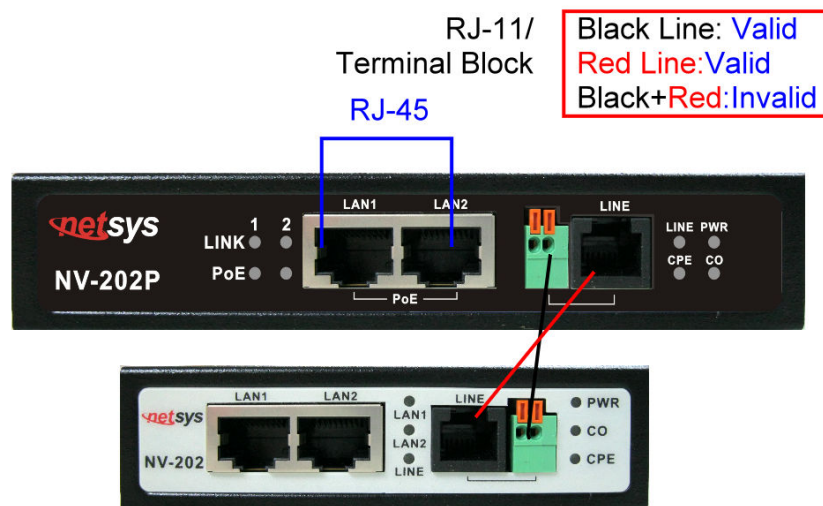
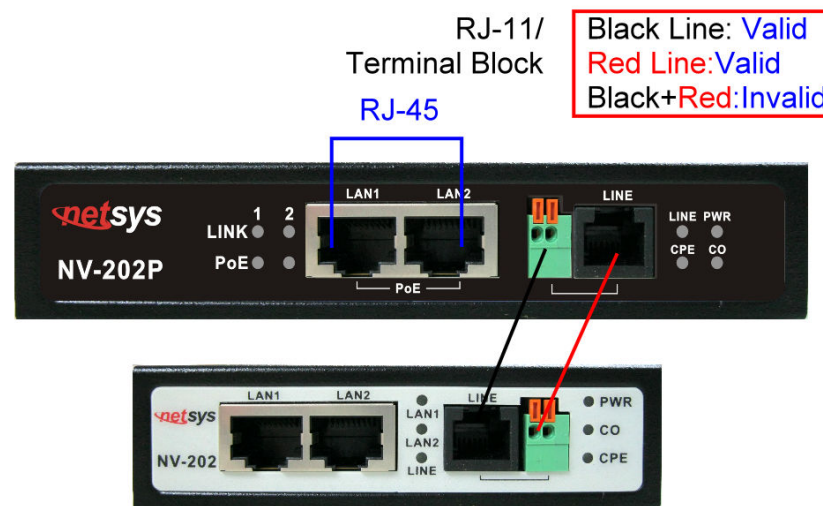

Figure 2.4 NV-202P line ports straight connection
Figure 2.5 NV-202P line ports crossover connection
- ◆ The line port has 2 connectors: RJ-45 and terminal block. It is used to connect from NV-202P (CO) using single pair phone cable to NV-202 (CPE) side (point to point solution). Take note that NV-202P line port cannot be used at the same time. Either RJ-11 port is connected or terminal block is connected using straight connection (Figure 2.4) or cross-over connection (Figure 2.5)